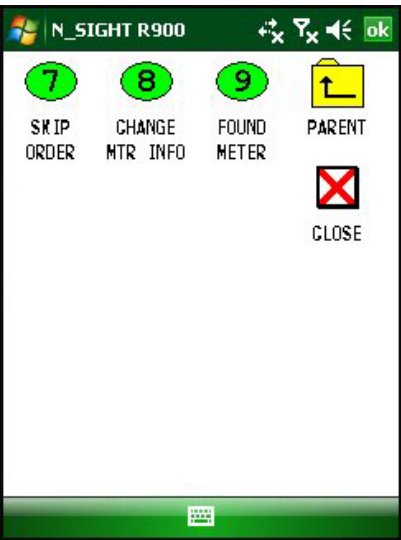

Figure 6.35 N\_SIGHT R900 Meter Process Menu
- The **Meter Process Menu** appears as illustrated in Figure 6.35.